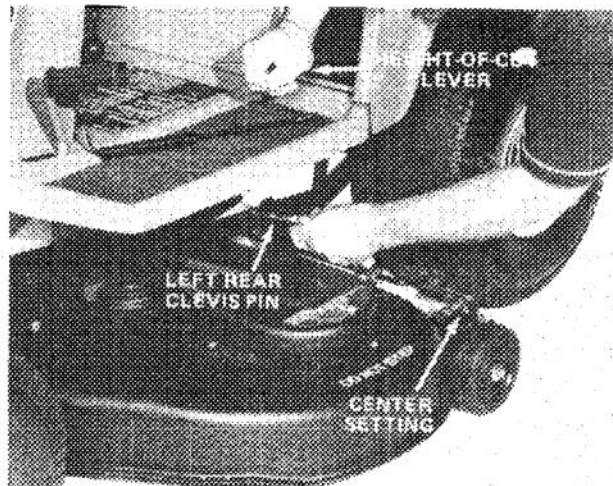

Figure 33
6. Insure height-of-cut lever is held down in lowest height-of-cut position. Remove left rear clevis pin by pushing it out with a pin punch (Fig. 33).